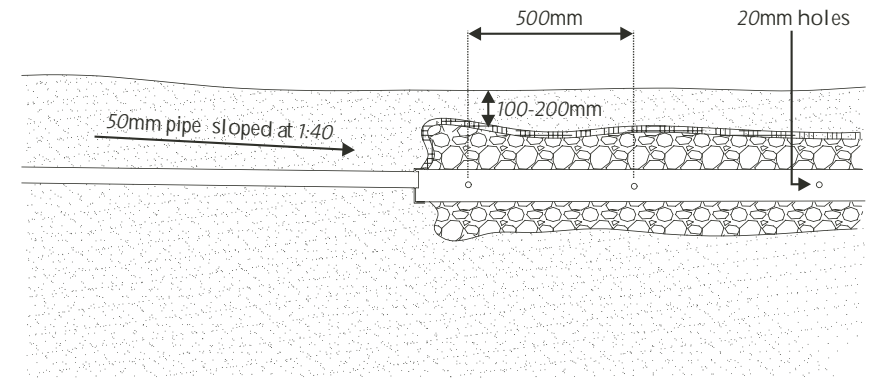

Figure 6
- > A chosen number of 200mm x 200mm piped irrigation trenches consisting of 90mm PVC rigid pipe with 20mm holes at 500mm centres and end caps laid level in an aggregate (size 20-40mm rock) filled trench 200mm deep and 200mm wide. The aggregate trench is covered by geotextile material to stop the ingress of soil and then covered with a minimum 100mm and maximum 200mm of soil (see Figures 6 & 7). The irrigation trenches are sized based on soil type, winter irrigation not occurring, the number of bedrooms or persons, and the fixtures connected to the reuse system (see Table 1). Further advice about other options can be obtained from your local government, Environmental Health Officer or the onsite wastewater regulator in your state (see Table 2).
- Installers are required to prepare the irrigation trench 90mm PVC pipe work before installation by drilling 20mm holes on opposite sides of the 90mm pipes along the length at 500mm centres (see figures 6 & 8). The 20mm holes are drilled at the same level along the length of the pipe sides so irrigation water can fill the pipe and flow out of all holes. Removal of burrs around the edges of drill holes is required to avoid suspended matter being caught over time and affecting the flow.